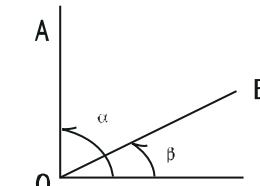

Fig.8
(1) Sight A with vertical hair, read circle, get angle  $\alpha$ .
(2) Turn instrument to sight B, get angle  $\beta$ .
(3)  $\angle AOB = \alpha - \beta$  (Fig.8)